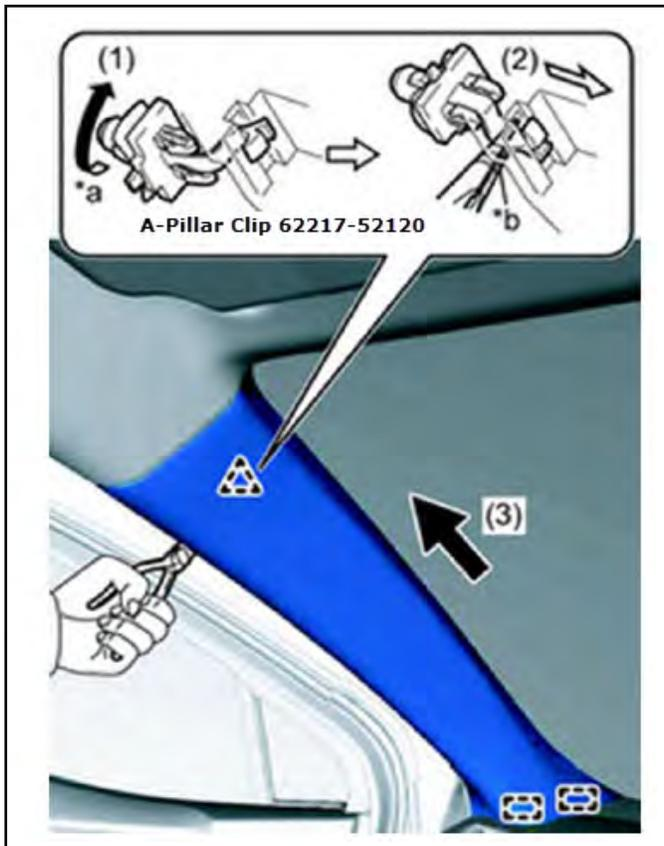

Figure 6
6. Using needle-nose pliers with the tips wrapped with protective tape, rotate the front A-Pillar garnish clip 90° in the direction indicated by the arrow (1) shown in the illustration. Pull the front A-Pillar garnish LH in the direction indicated by the arrow (2) shown in the illustration to disengage it from the front A-Pillar garnish clip. Pull the front A-Pillar garnish LH in the direction indicated by the arrow (3) shown in the illustration to disengage the 2 guides to remove the front A-Pillar garnish LH. Remove the A-Pillar garnish clip from the A-Pillar. The clip CAN NOT be reused. DESTROY and DISPOSE of clip. See figure 6.